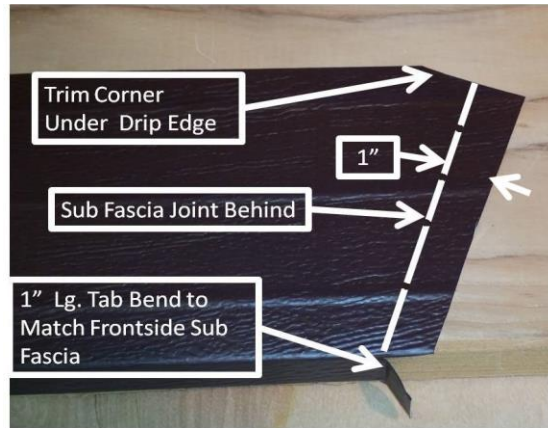

Figure 11-17. Gable Peak Back Side Fascia.
13. Cut the flange and trim the top corner as shown on Figure 11-17, and bend the tab to match the front-side gable angle. This small tab will cover the bottom of the joint and the top corner is trimmed to prevent any interference with the drip edge.